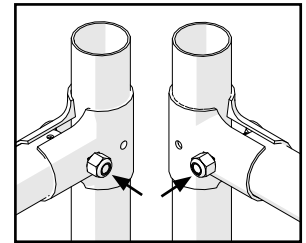

FIG. 5
- a.) Attach horizontal rails to vertical posts using two-piece fitting. Once height and level have been checked tighten 3/8"-16 x 1-1/2" center bolt. (Fig. 5)